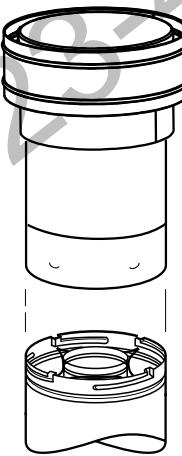

Figure 24
K. Install the vertical termination - The final step involves installation of the SV4.5CGV-1 Vertical Termination. Extend the vent sections to the height as shown in the "Vertical vent termination section" on **page 9**. The SV4.5CGV-1 Vertical Termination (**Figure 24**) installs in the exact same fashion as any other **Secure Vent** section. Align the termination over the end of the previously installed section, adjusting the radial alignment until the locking dimples of the termination are aligned with the inlets of the four incline channels of the last vent section. Push the termination down until it fully engages, then twist the termination clockwise running the dimples down and along the incline channels until they seat at the end of the channels.